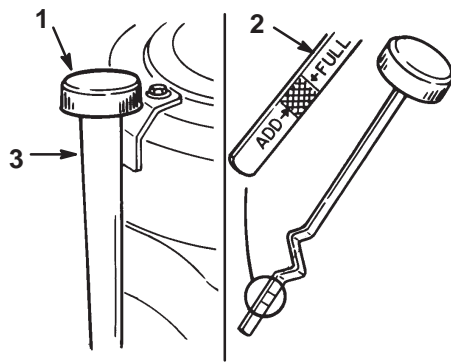

Figure 21
2. Clean around the oil dipstick (Fig. 21) so dirt cannot fall into the filler hole and damage the engine.
3. Unscrew the oil dipstick and wipe the metal end clean (Fig. 21).
4. Thread the oil dipstick fully onto the filler tube (Fig. 21). Pull the dipstick out and look at the metal end. If oil level is low, slowly pour only enough oil into the filler tube to raise the level to the "FULL" mark.
5. Slowly pour approximately 80% of the specified oil, page 26, into the filler tube (Fig. 21). Now check the oil level; refer to Checking Oil Level, page 26. Slowly add additional oil to bring to "FULL" mark on dipstick.